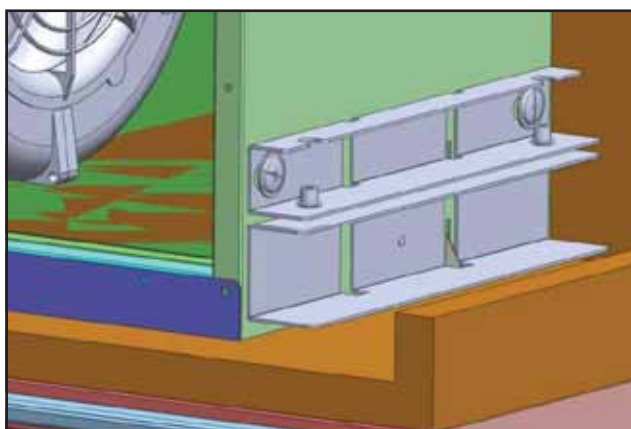

Fig.6
5) **24" Models Only.** Place lower installation brackets under upper installation brackets located on left and right sides of hood body, Fig.6. Note: The wider portion of the lower installation bracket should be at the bottom.